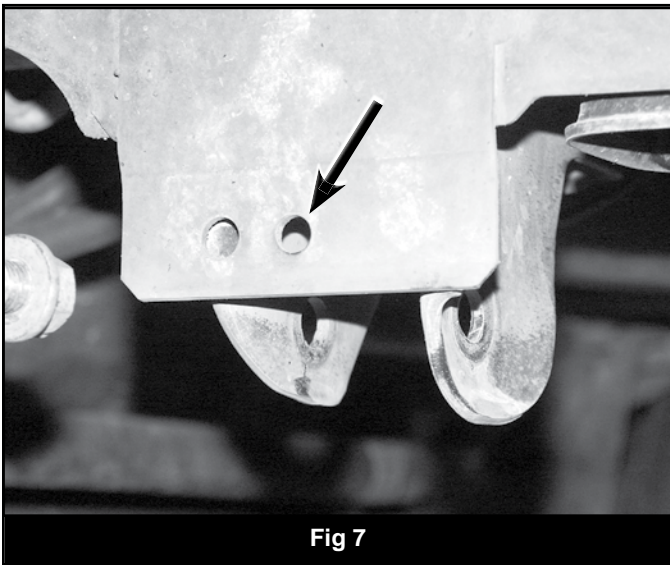

Fig 7
16. Locate the existing center hole in the outside of the OE track bar mount on the driver's side of the vehicle. Drill hole this hole out to $\frac{1}{2}$ " (Fig 7).